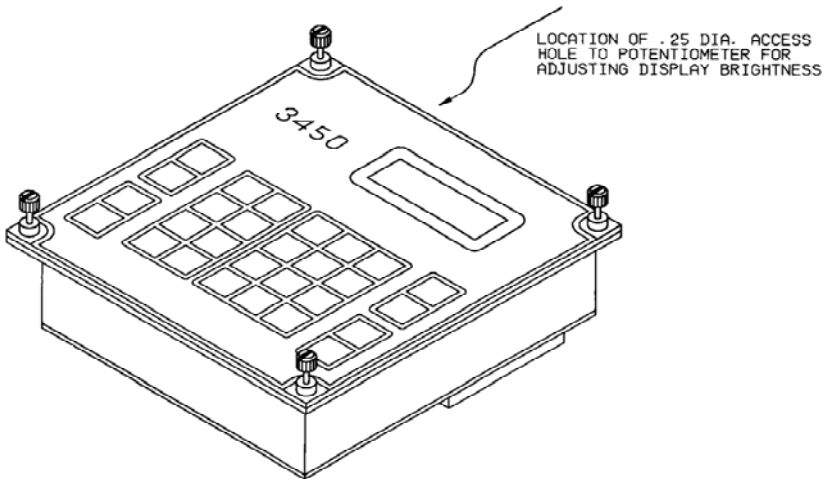

Figure C-2. Display Contrast Adjustment
- ✓ An adjustment potentiometer for the display contrast is located inside an access hole in the top edge of the control unit, as shown in Figure C-2.